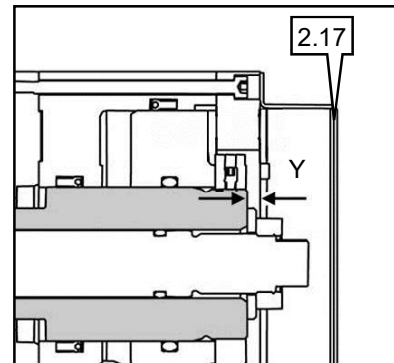

Fig. 16:
- Check dimension Y_{open} (Fig. 16).
- Check dimension Y_{closed} (Fig. 16).
- **Pay attention that the lip of the seals face to the correct side** (refer to fig. 16).